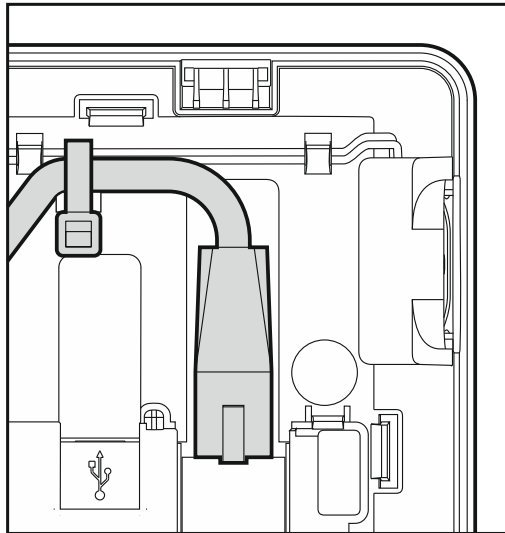

Fig. 5. Securing the Ethernet cable.
11. If the keypad is to be connected to the Ethernet network (image from the network cameras is to be displayed or the SLAVE keypad is to be used), connect the cable terminated with RJ-45 plug to the dedicated socket. Use the cable compliant with the 100Base-TX standard (the same as used for connecting computer to the network). It is advisable to use the flat network cable, which is more flexible, and secure the cable using a cable tie (see Fig. 5).